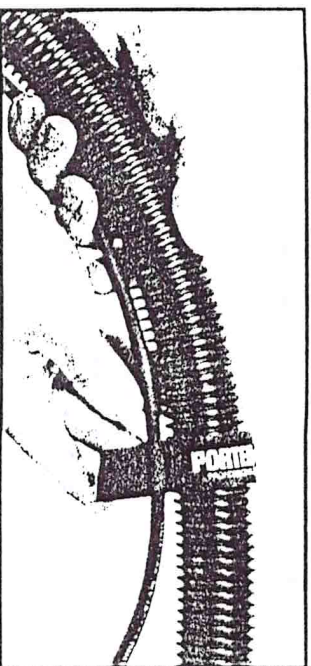

Fig. 3
3. Install the six "hook & loop" type straps, to prevent tangling of the Sander cord and the vacuum hose. Lay the cord and the vacuum hose out parallel to each other. Space the straps at approximately two foot intervals, beginning two feet from the Drywall Sander. Wrap the long end of each strap around the vacuum hose and close. Then wrap the short end of each strap around the cord and close (see Fig. 3).